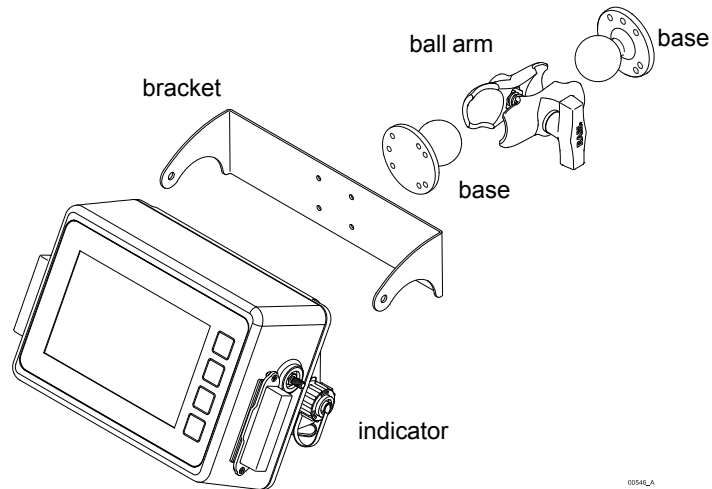

Figure 3.2 Bases Separated from Ball Arm
2. Turn the handle until both bases can be easily removed as shown in Figure 3.2.